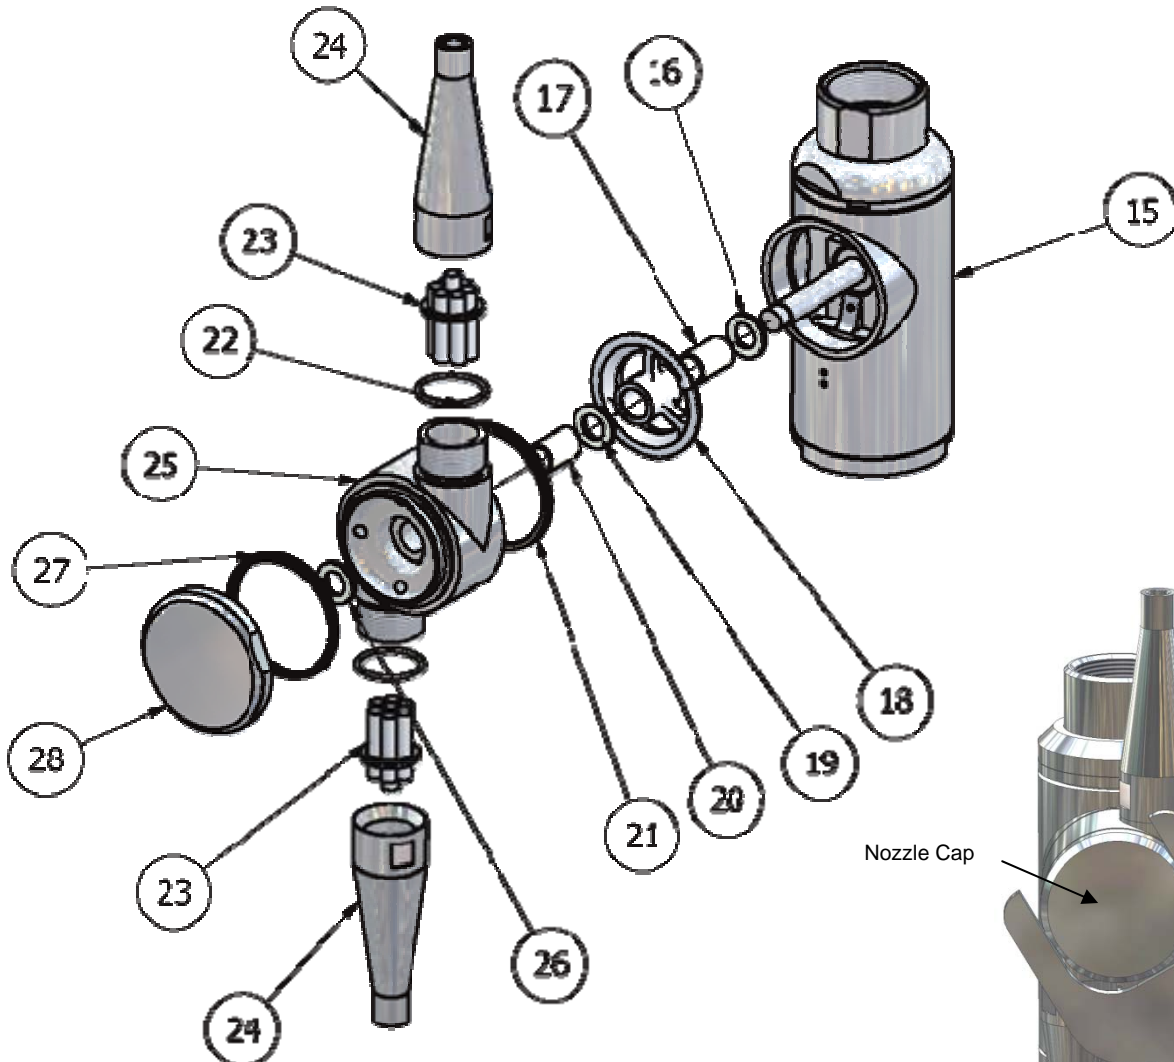

Figure 18
- a. If foreign matter has entered the machine and passed through the body, it may have lodged itself in the bevel gears; position 12.6 and 17. To check these areas refer to Figure 18 for instructions on removal of the hub. Take care to review the gearing and ensure that there is no damage that could prevent operation.